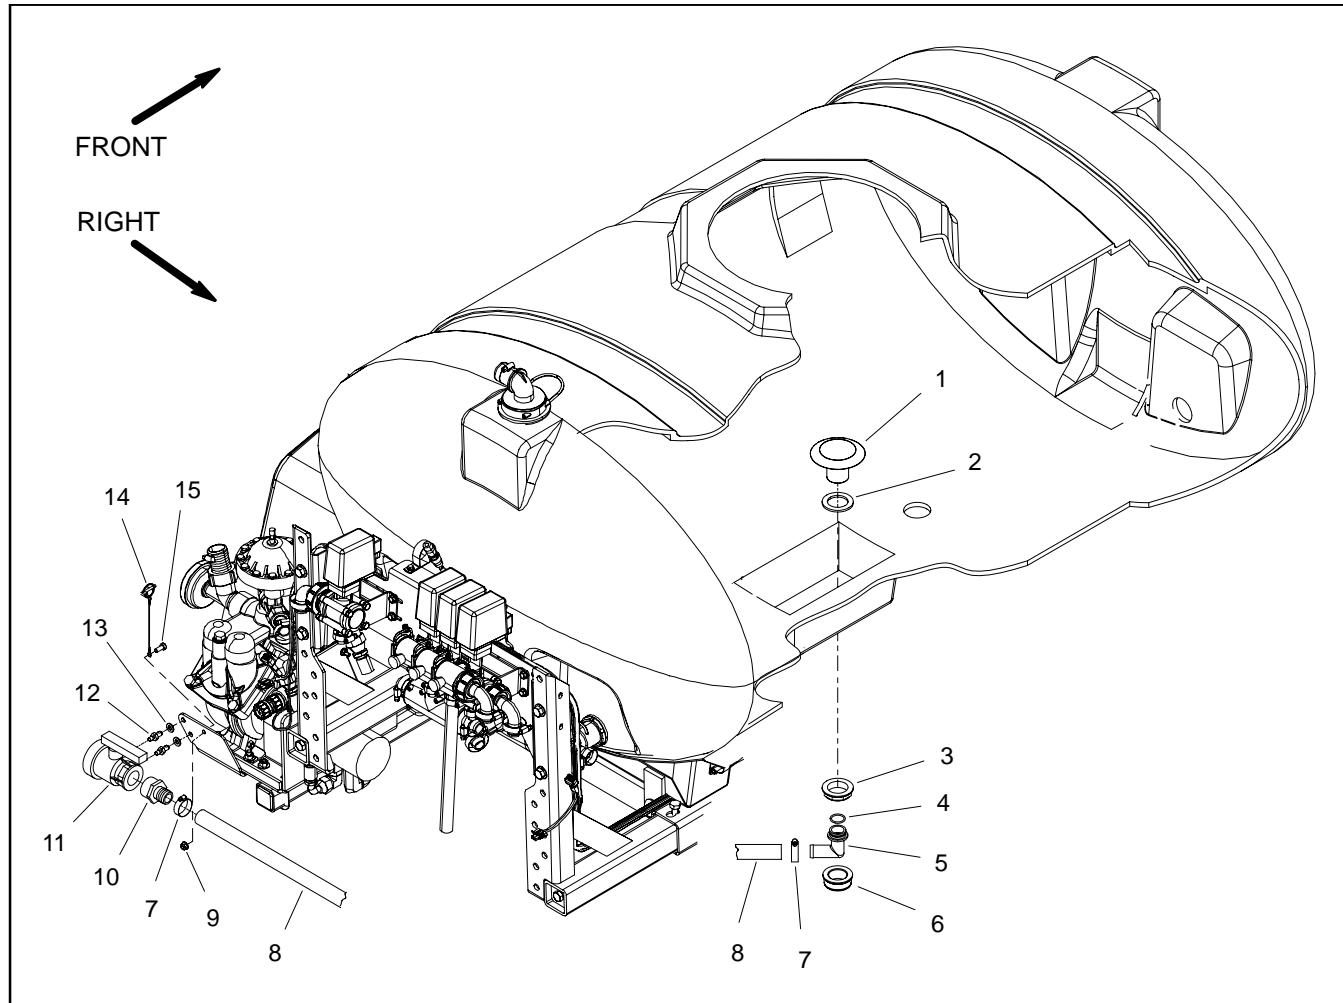

Figure 37.1
## Disassembly (Fig. 37.1)
4. Disassemble drain assembly using Figure 37.1 as a guide. Discard all removed O-rings and gaskets.
## Assembly (Fig. 37.1)
1. Assemble drain assembly using Figure 37.1 as a guide. Replace all removed O-rings and gaskets.